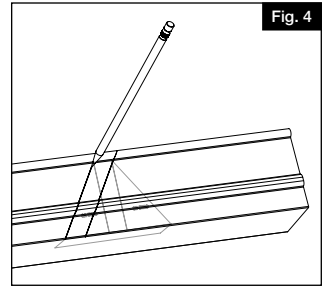
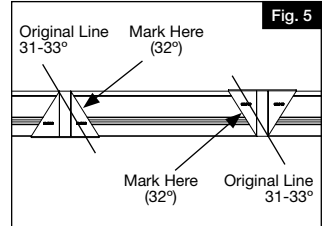

Fig. 4
Fig. 5
Place bottom rail across post opening leaving equivalent spacing from the last baluster and post on each end (Fig. 3). Mark 2" from end of post to allow room for bracket width and expansion (Fig. 4). Align top rail with bottom rail and cut both rails with miter box or hacksaw (See blade manufacturer's specs for correct blade) (Fig. 5).
- a. From the original line created by the post, mark another line  $\frac{1}{16}$ " on the inside of the bottom rail (closer to the baluster routes) (Fig. 4). This is accomplished by using the angle template (Fig. 5). This additional removal of material will allow for bracket clearance when the rail is installed. For this 31°-33° angle, the new line will be parallel to the previously drawn line.